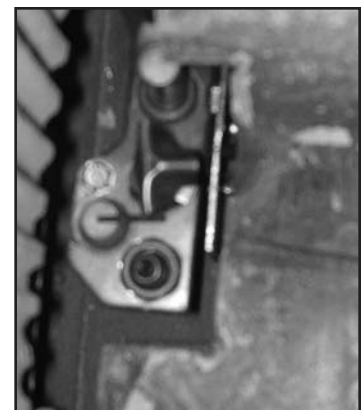

Figure 22. Pilot assembly beside the burner
8. Re-install the burner, ceramic panels, log set and glass door. Also refer to SECONDARY INSTALLATION - LOG SET INSTALLATION. When re-installing the burner, ensure that the burner to pilot hood relationship is similar to what is shown in Figure 22.